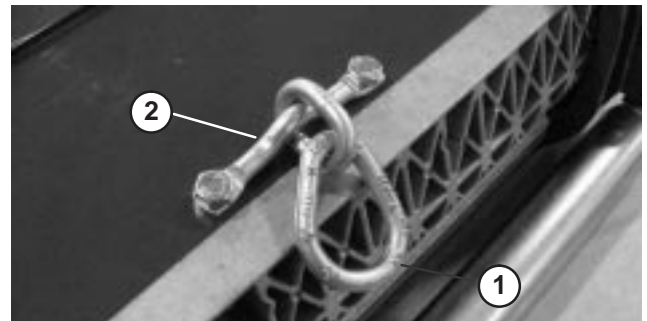

Figure 3
- Chain link (Fig. 3) for Greensmaster 3250-D traction unit. Install chain link to top of cutting unit with mounting bracket and (2) capscrews. Torque capscrews to 25–30 ft-lbs. (34–40 N·m). Large end of link to hook on traction unit suspension.